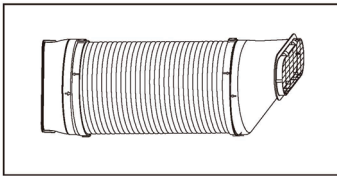

Fig. 3
3. The assembled hose with inlet and outlet connectors appear as fig 3.